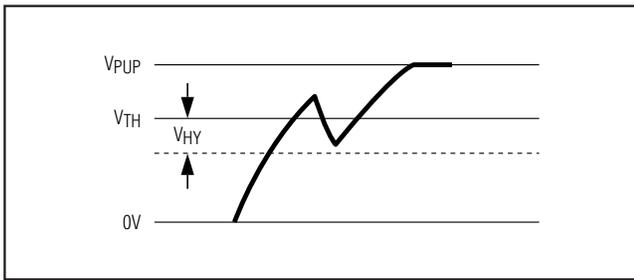

Figure 13. Noise Suppression Scheme
- 2) There is a hysteresis at the low-to-high switching threshold V_{TH} . If a negative glitch crosses V_{TH} but does not go below $V_{TH} - V_{HY}$, it is not recognized (Figure 13). The hysteresis is effective at any 1-Wire speed.